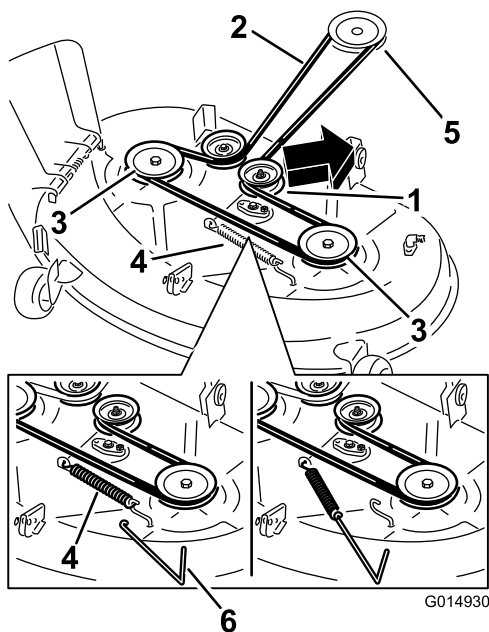
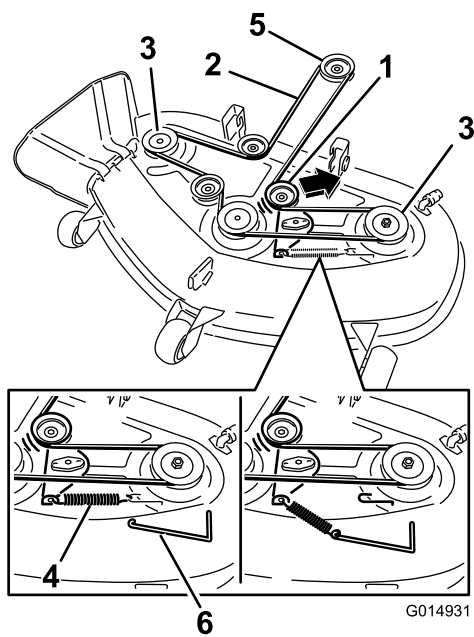

Figure 66
Figure 67
5. Using a spring-removal tool, (Toro part no. 92-5771), remove the idler spring from the deck hook to remove tension on the idler pulley, and roll the belt off of the pulleys (Figure 66 and Figure 67).
6. Route the new belt around the engine pulley and mower pulleys (Figure 67).
7. Using a spring-removal tool, install the idler spring over the deck hook, and place tension on the idler pulley and mower belt (Figure 66 and Figure 67).